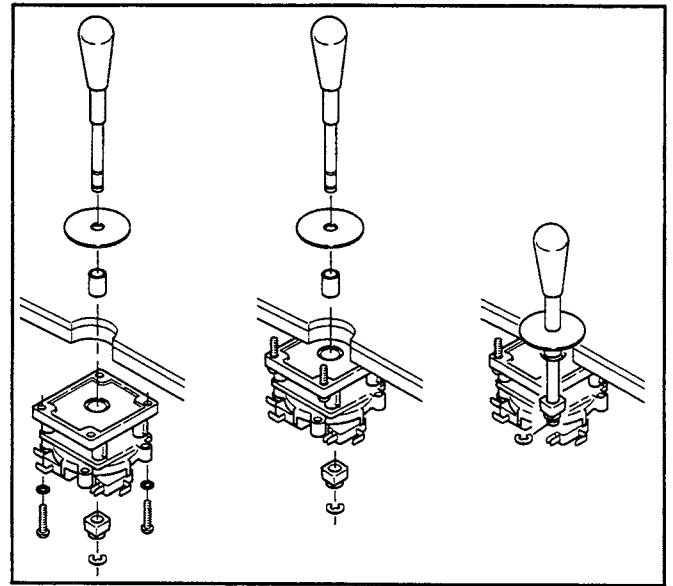

FIGURE 4
17. Install the joysticks on the control panel as shown in Figure 4.